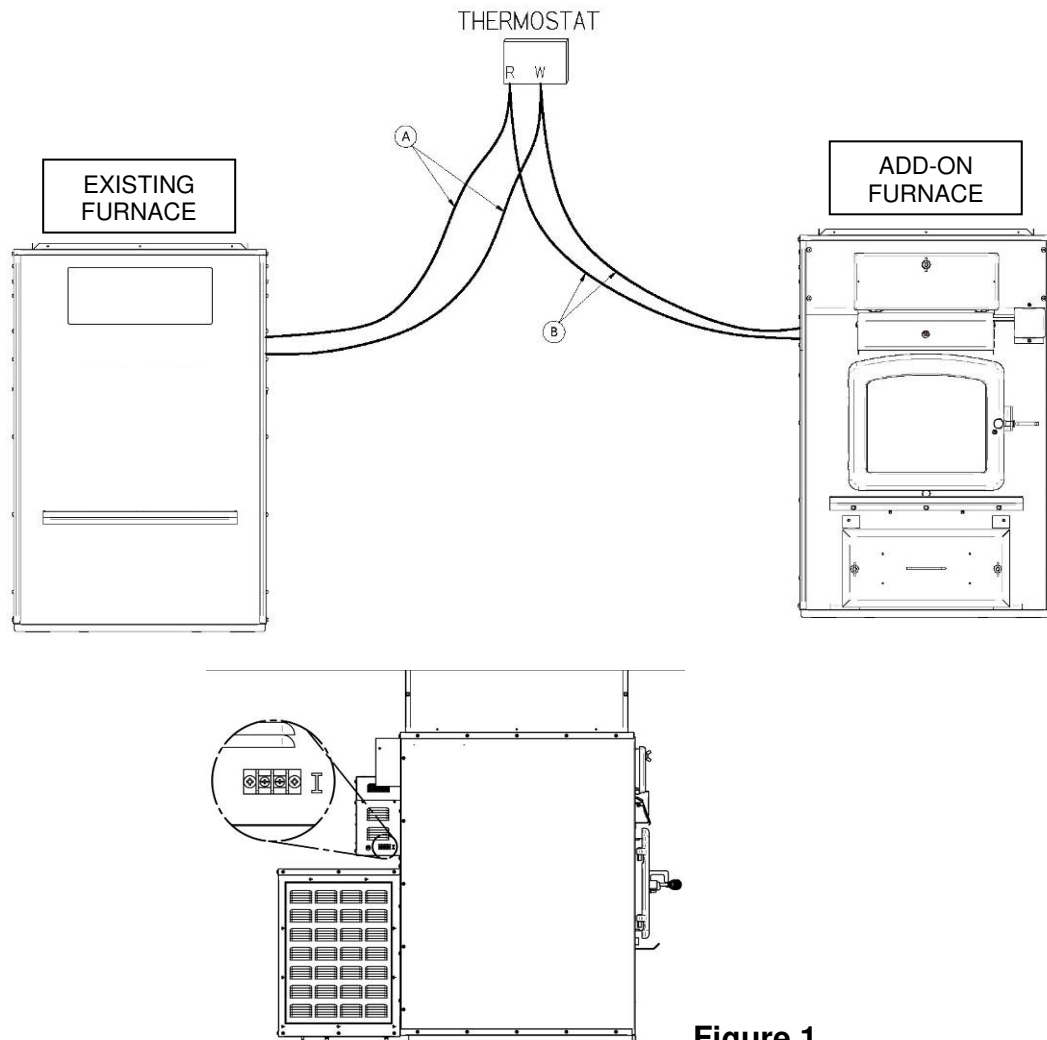

Figure 1
- 1- From the terminal of the existing furnace, connect 2 new wires (B) to the existing wire (A) and fix them to the terminal on the circuit board labeled "I" (interlock) of the Add-On furnace (see **Figure 1**).
- 2- From the thermostat connected to the existing furnace, connect 2 new wire (B) on the R and W terminals of your thermostat and fix them to the terminal on the circuit board labeled "I" (interlock) of the Add-On furnace (see **Figure 1**).